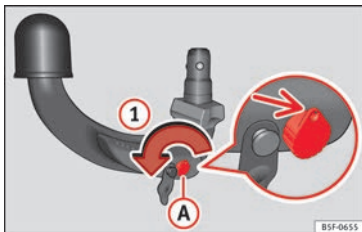

Fig. 214 Step 1.
- Turn the key in the direction of arrow ① until the part of the key with the holes reaches the top position »» Fig. 214 (arrow).